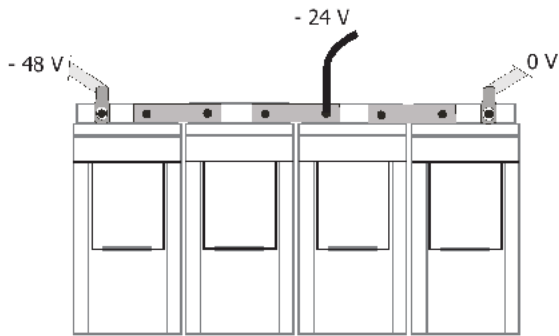

Figure 4-11 2-block Symmetry Measurement (for illustration only)
- 3. For 2-block battery symmetry measurement fix one wire of the symmetry cable to the cable lug in the mid-point of the battery string, see Figure 4-11.